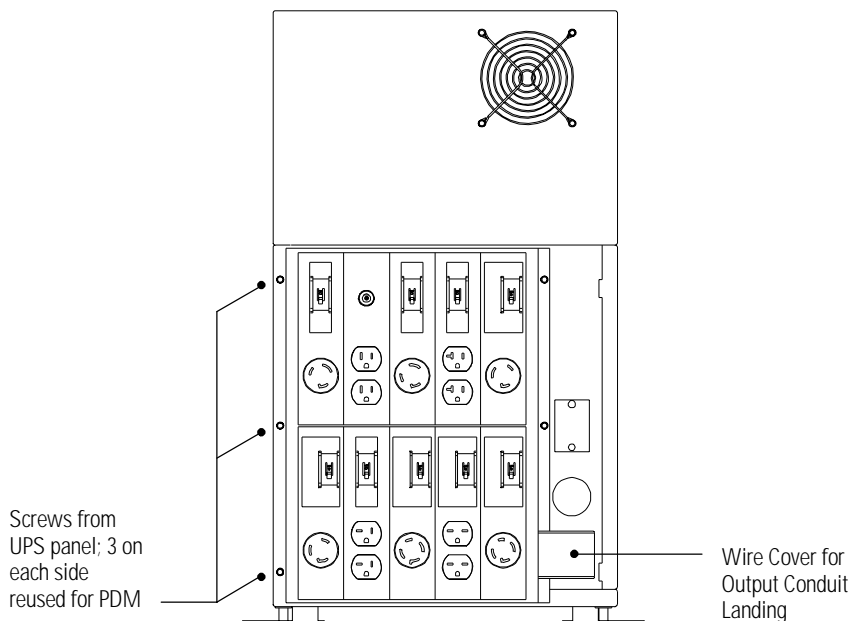

Figure 10. Mounting the PDM to UPS Rear Panel
5. Remove the lower rear panel of the UPS by unscrewing the six screws. Save the screws for reuse; the panel is no longer needed (see Figure 10).
6. Mount the PDM chassis in the spot previously occupied by the rear panel. The wires exiting the PDM should be close to the output conduit landing on the UPS (see Figure 10).
10. Connect the wire cover to the PDM using the two screws provided (see Figure 10).